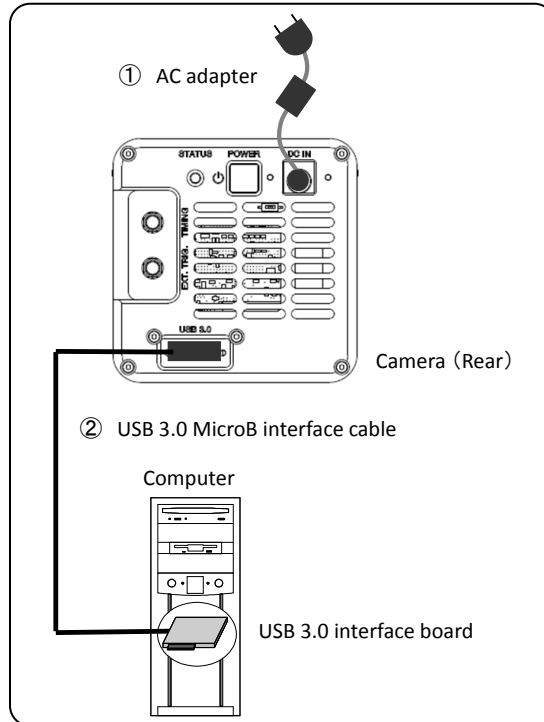

Figure 7-1 Connecting cable
- (1) Connect the cable as shown in Figure 7-1 before you start operation.
- (2) Turn on the power of computer.